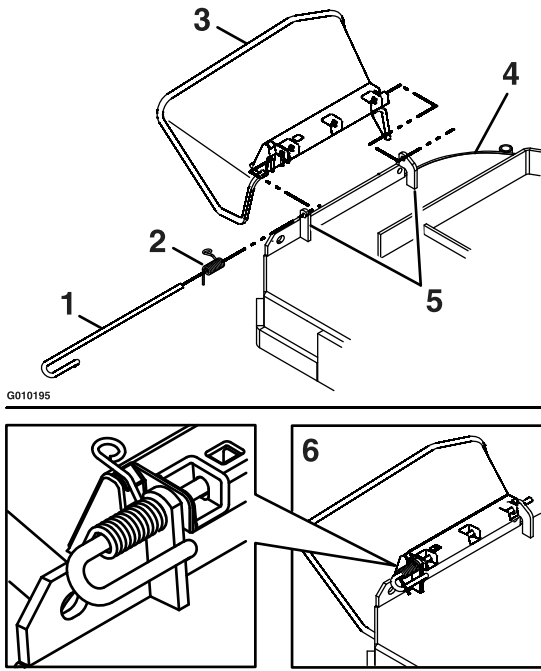

Figure 13
2. To install new discharge deflector, orient the spring on the rod as shown in Figure 13. Slide the rod through the front discharge deflector bracket, discharge deflector, and rear deflector bracket.
- Hook the bent end of the rod around the front discharge deflector bracket to retain it from sliding out. Place the leg of the spring with the loop in the notch in the discharge deflector to hold the discharge deflector in the down position (see Figure 13).